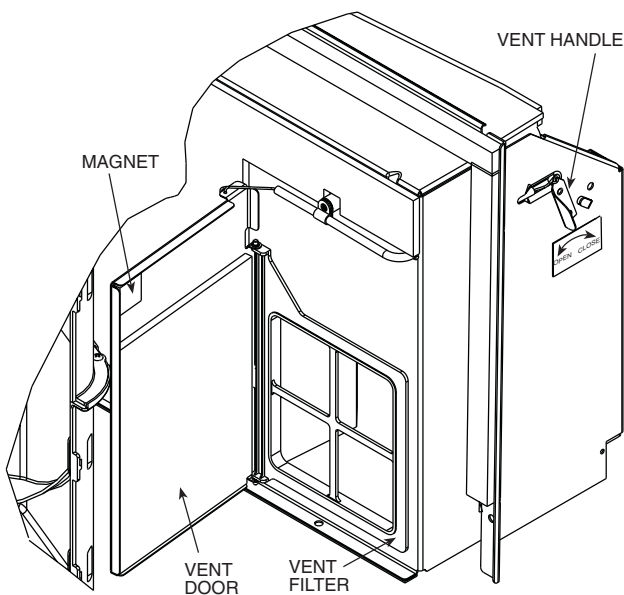

FIGURE 13 — 52C VENT DOOR
■ **ADJUST VENT** — The vent handle is on the left side of the unit. Turn handle to open or close vent. Vent will remain in last desired position until handle is turned again. Magnet will ensure positive closure. See Figure 13.
■ **OUTSIDE AIR** — To bring outside air into occupied space, turn the vent handle to the full open position. See Figure 13.